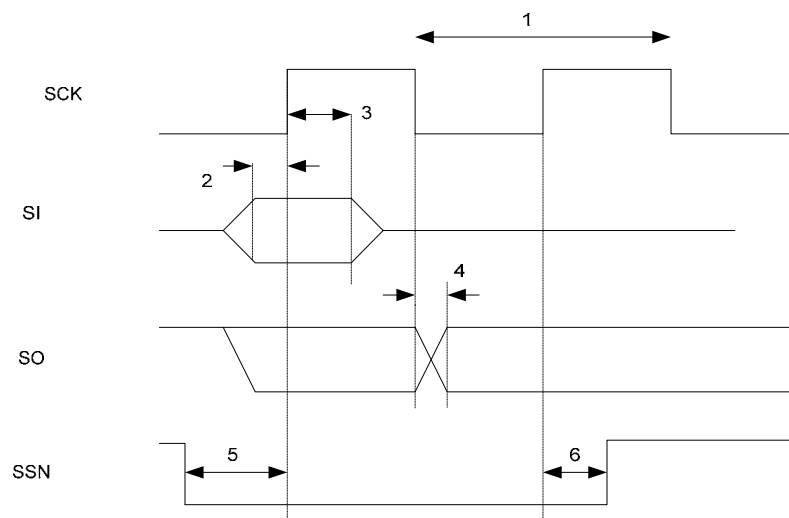

Figure 2: SPI AC Characteristics
| SSN low to SCK | 2*t _{SYSCLK} | | | | See item 5 Figure 2 |
| SCK to SSN high | 30 | | | ns | See item 6 Figure 2 |
| SCK period | 100 | | | ns | See item 1 Figure 2 |
| SI setup | 10 | | | ns | See item 2 Figure 2 |
| SI hold | 10 | | | ns | See item 3 Figure 2 |
| SCK to SO | | | 25 | ns | See item 4 Figure 2, load = 10 pF |